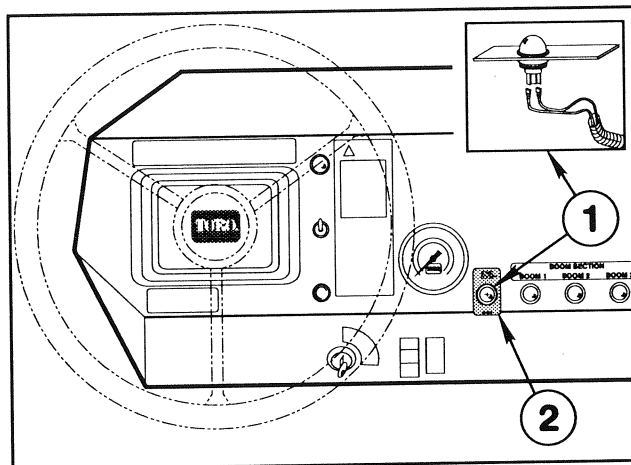

FIG. 3
6. Install Sonic Boom™ Decal and Indicator Light on Dash, and connect Harness Leads to Light. See FIG. 3